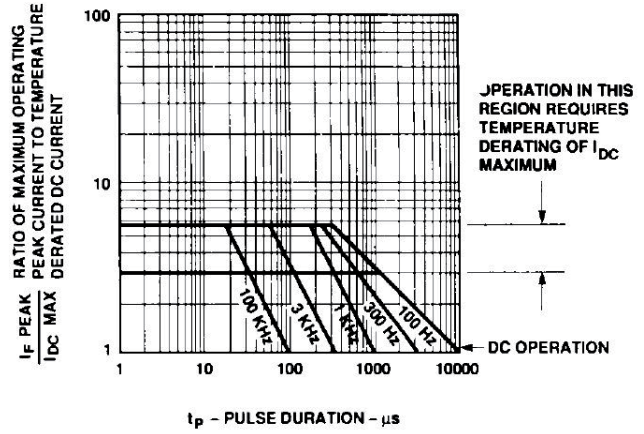

Figure 7. Maximum Tolerable Peak Current vs. Pulse Duration – Yellow Series.
- See Figure 7 to establish pulsed conditions.